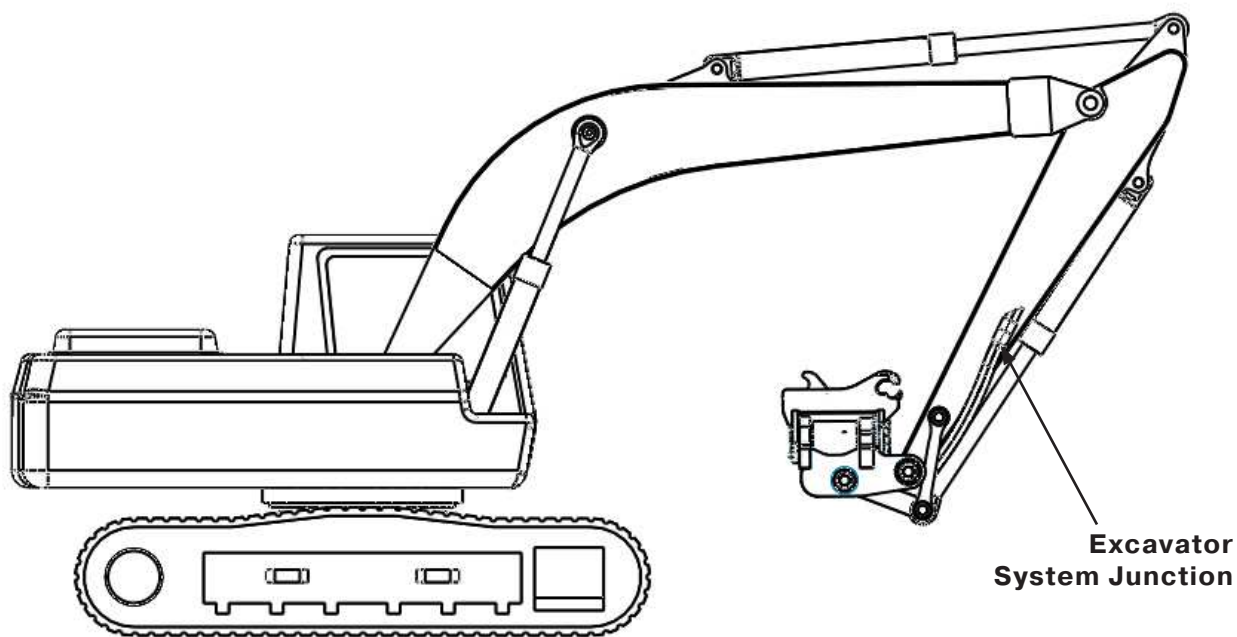

Figure 1: Boom Positions for Flushing Procedure – PowerTilt Inverted
2. Curl the PowerTilt (extend the stick cylinder) and position the stick boom and main boom until the PowerTilt is in the approximate position shown in Figure 1 below (fully inverted, PowerTilt ports facing down) and at a convenient distance from the ground.
6. Locate the hose which joins PowerTilt port P1 to the excavator hydraulic system. Prepare for leakage, and slightly loosen the connection at the excavator hose or pipe system junction, Figure 1, to relieve residual pressure. Then carefully disconnect the hose.